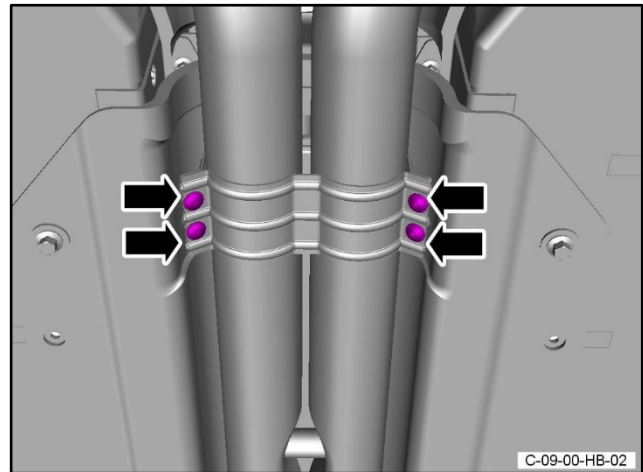

Figure 8
15. Remove the four attachment bolts for the centre exhaust mounting (refer to Figure 8).